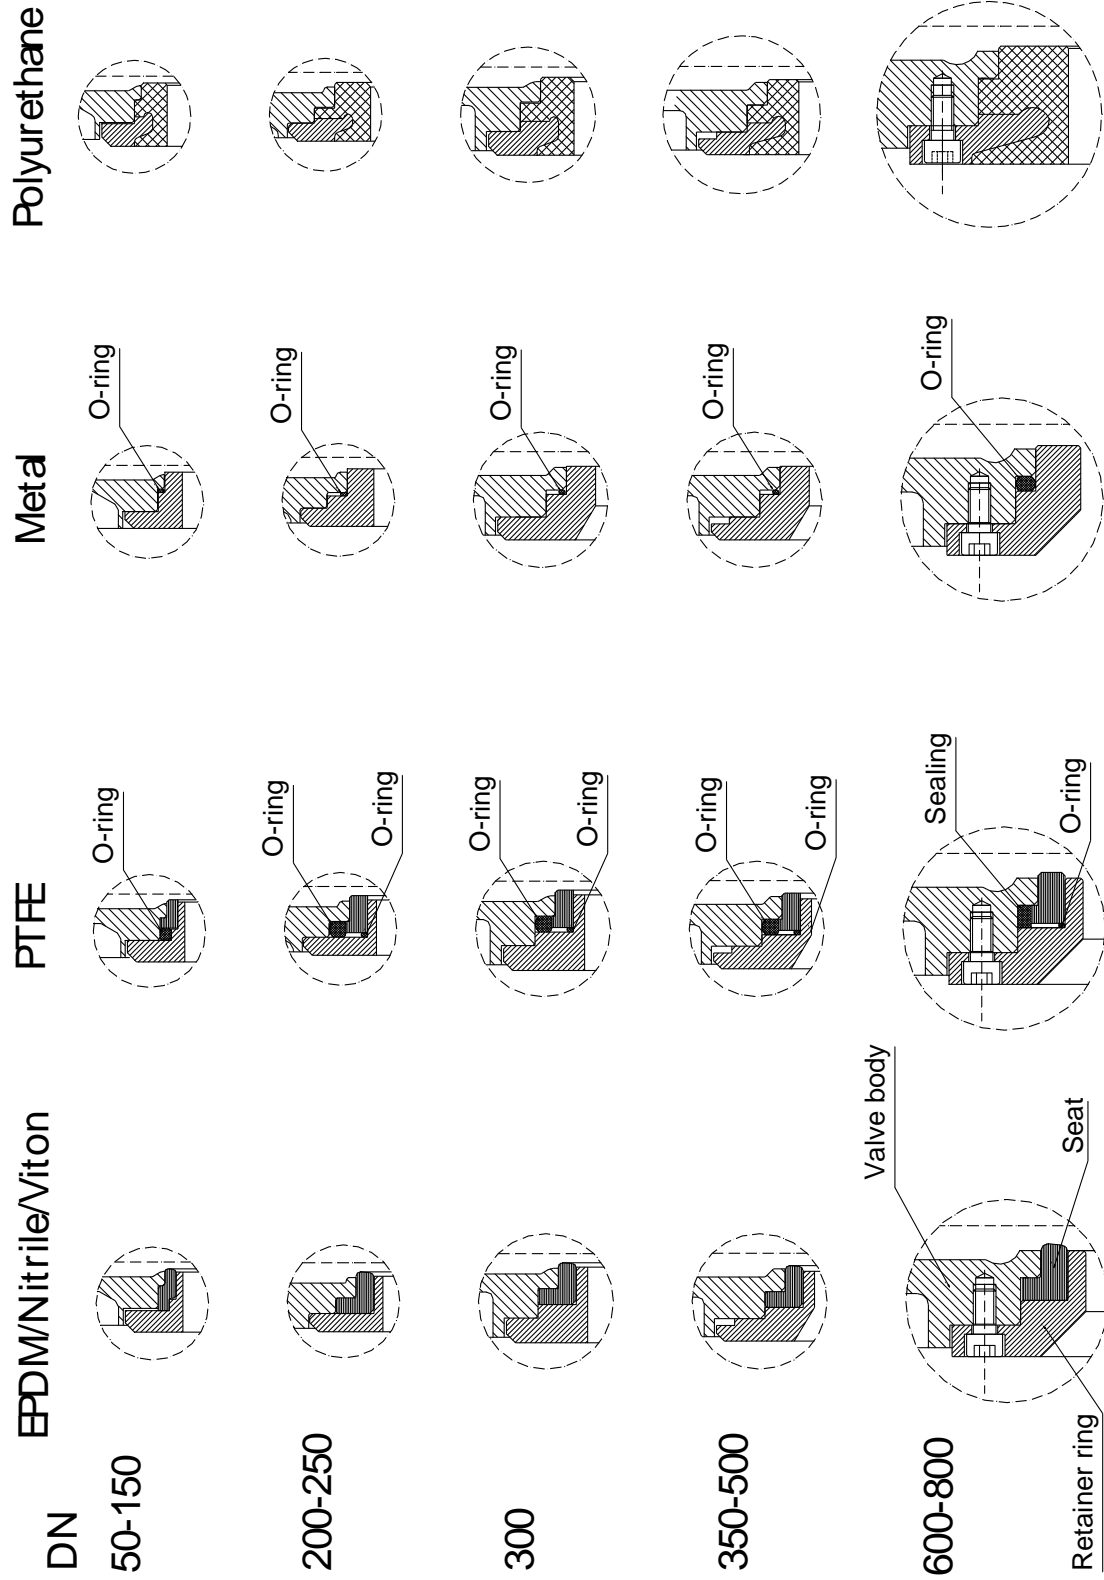

Figure 4
6. Install a new seat (**13**) on the retainer ring (**12**) and place the retainer ring in the valve body (**10**). For PTFE or metal seat, o-rings must also be installed, see fig. 4. Lubricate the seat and the o-rings with a synthetic lubricator to make the installation easier.